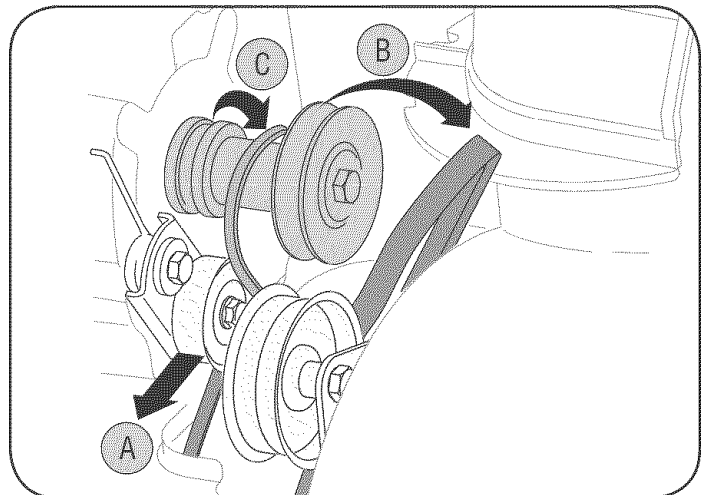

Figure 23
1. a. Grasp the idler pulley and pivot it toward the right. See Figure 23. Insert a screw driver through aligning holes in both the idler bracket and the engine. This will release tension on drive belt.
c. Lift the drive belt off engine pulley. See Figure 23.